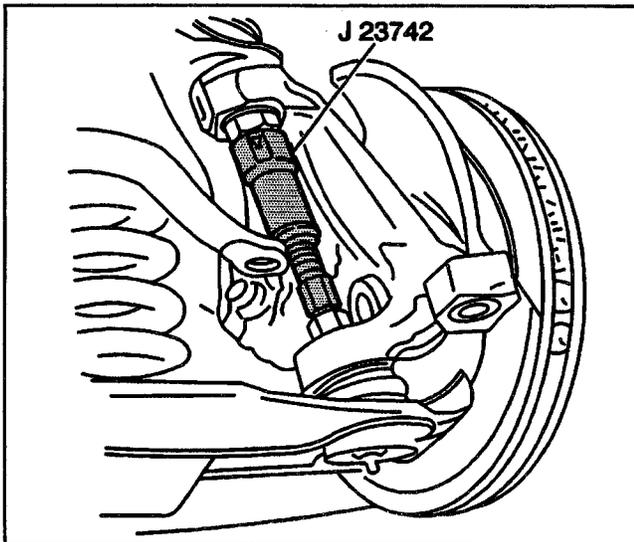
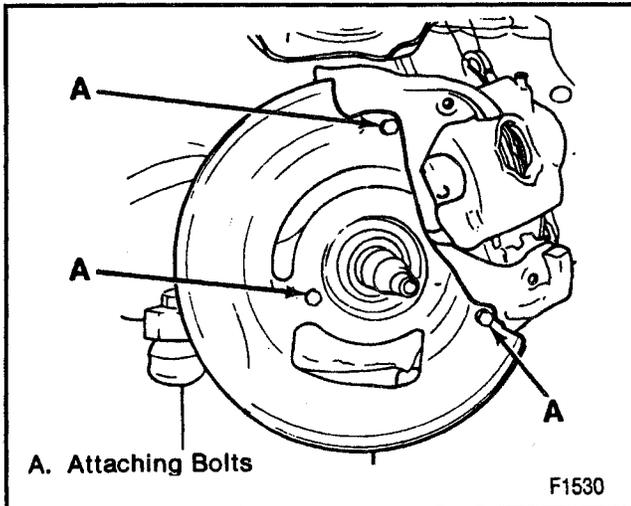
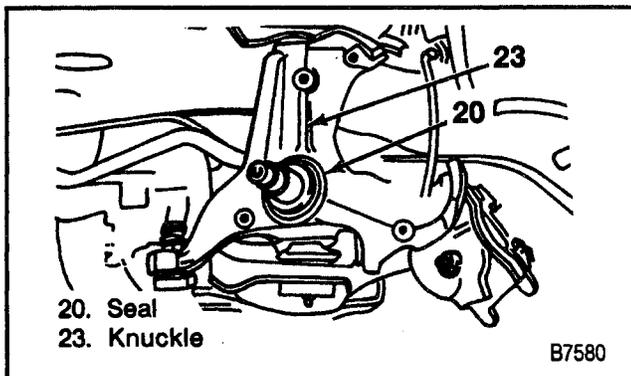

Figure 14—Disconnecting the Lower Ball Joint
Figure 22—Splash Shield Attachment
Figure 23—Locating the Seal on the Knuckle
3. Cotter pin (68) and the nut (67).
- Use J 23742 to break the ball joint loose from the knuckle (Figure 14).
4. Lower control arm (40) from the knuckle.
4. Hub/rotor assembly (17). Refer to "Hub, Bearing, and Seal Replacement" in this section.
5. Three bolts attaching the splash shield to the steering knuckle (Figure 22).
6. Steering knuckle seal (20) if the steering knuckle (23) is to be replaced (Figure 23).
- Be careful not to damage the knuckle seal (20).
7. Upper and lower ball joint studs from the steering knuckle (23) using J 23742 (Figures 14 and 20). Refer to "Ball Joint Replacement" in this section.
2. Steering knuckle seal (20) (Figure 23).
3. Splash shield (25) to the steering knuckle (23).
4. Bolts (A) to the splash shield (Figure 22).